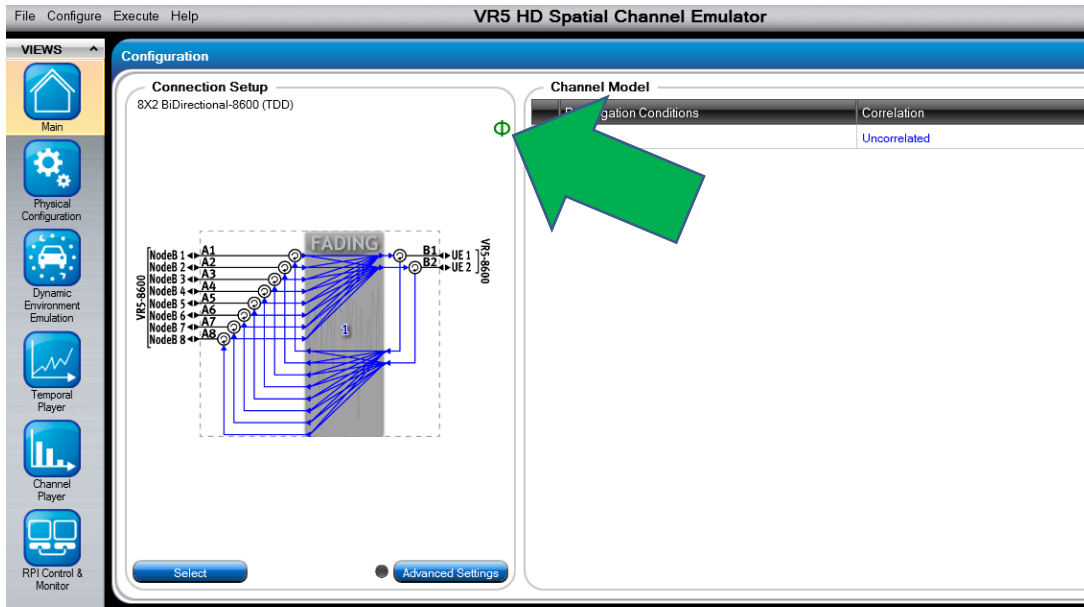

Figure 4-21: Green Φ – Automatic Calibration Successful
- When completed, the phi character (Φ) displays in green, as shown in Figure 4-21.